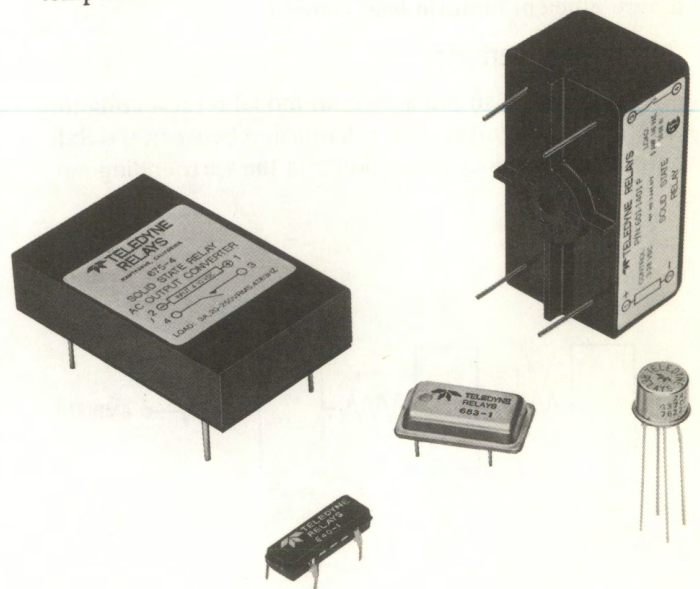

Fig. 2-6 PC board mount SSRs.
a) **Printed Circuit Board Packages** — Figure 2-6 shows a variety of standard SSR configurations designed expressly for pc board mounting. Since this involves essentially free air mounting without benefit of external heat sinking, pc board mounted SSRs are limited in their load current handling capacity to around 5Amps at room temperature.